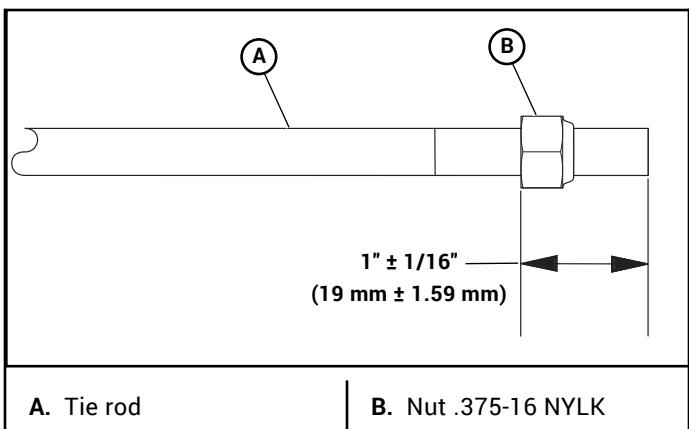

Figure 3-10
14. Thread a .375-16 nylon locking nut onto each of the tie rods to the dimension shown in Figure 3-5 & Figure 3-10.
15. Insert one tie rod through the key hole slot in the fender support bracket and into the slot in the support gusset. Make sure the nut on the tie rod is inserted through the slot in the support gusset. Figure 3-5 & Figure 3-10
horizontally then angled upwards after the nut clears the support gusset. Figure 3-5 & Figure 3-10